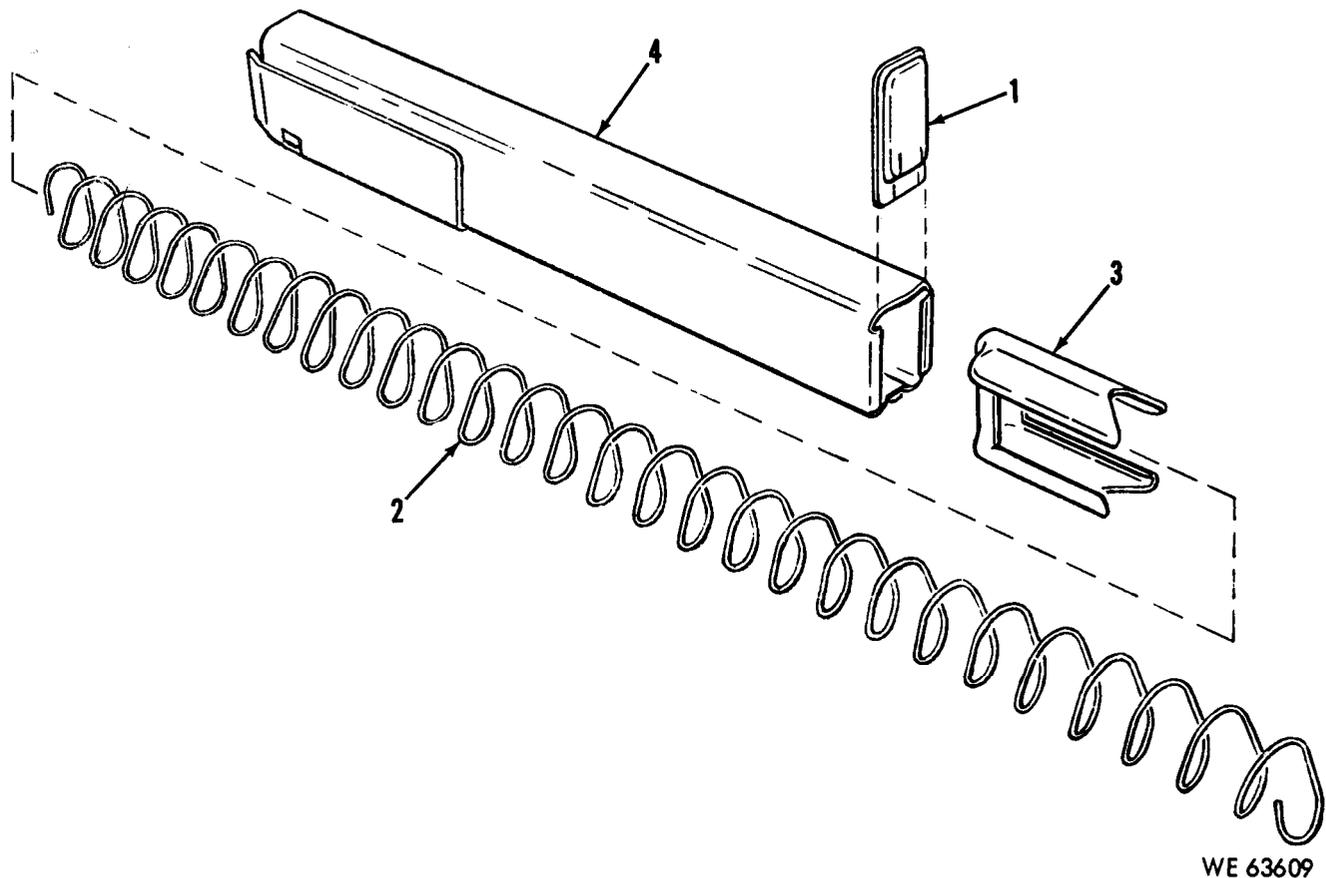

Figure 3-3. Magazine-exploded view.
(1) Operator's repairs to the weapon will be limited to the replacement of the magazine. The magazine can be disassembled in accordance with figure 3-3 for cleaning purposes.